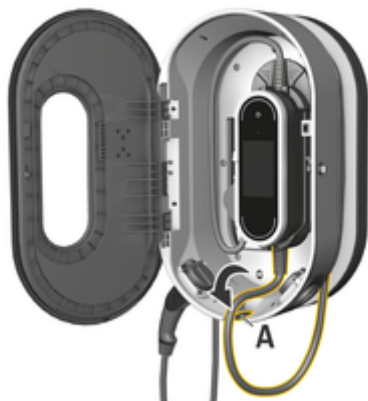

Fig. 15: Inserting control unit
3. Guide the vehicle cable through the opening A (Fig. 15) and wrap any excess cable around the charging dock.